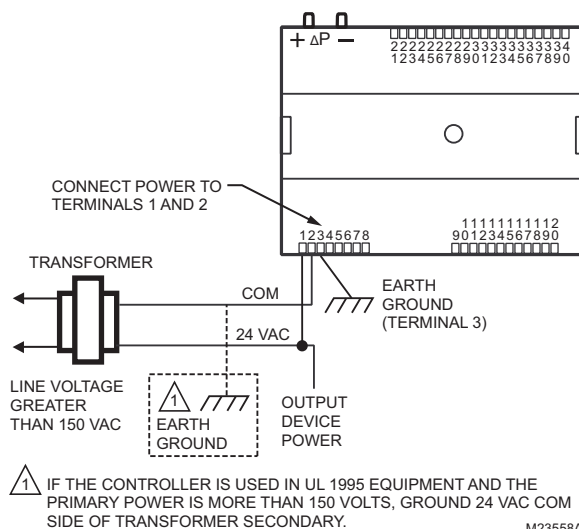

Fig. 5. Transformer power wiring details for one controller used in UL 1995 equipment (U.S. only).
- If a controller is used on Heating and Cooling Equipment (UL 1995, U.S. only) and transformer primary power is more than 150 volts, connect the transformer secondary common to earth ground (see Fig. 5 on page 6).
- See Fig. 5 on page 6 for device power wiring used in UL 1995 equipment (U.S. only).
*If the controller and device are used on **Heating and Cooling Equipment (UL 1995, U.S. only)** and the transformer primary power is more than 150 volts, connect terminal 2, (the 24 Vac common [24 VAC COM] terminal) to earth ground (see Fig. 5). For these applications, only one controller and device can be powered by each transformer.*